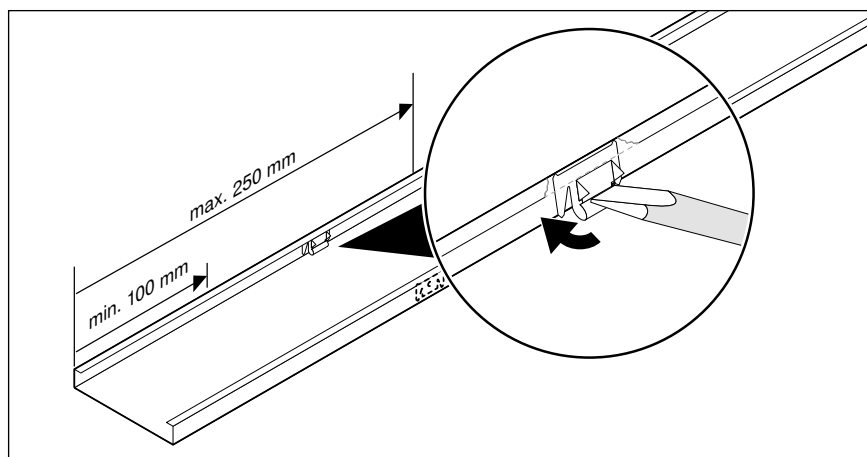

Fig. 14: Inserting locking brackets in the duct lid
- To be inserted as shown in Fig. 14: Attach the locking brackets at the top and push them back with a flat screwdriver.